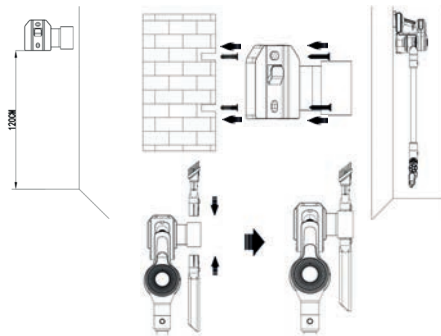

Fig. 1
- Secure the plastic wall mount (16) using the screws and dowels included in the kit (Fig. 1). Install the vacuum cleaner and additional attachments (13, 14) onto the mount.